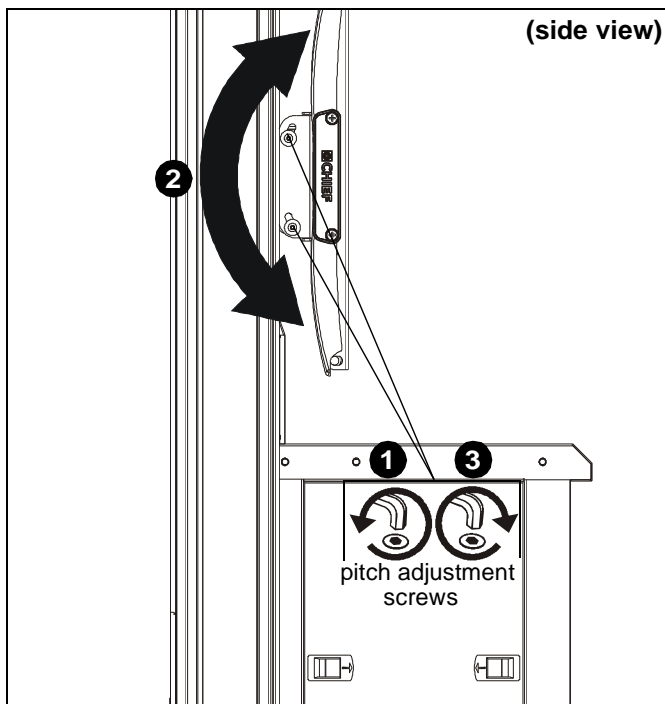

Figure 19
1. Loosen pitch adjustment screws to allow pitch to be adjusted. (See Figure 19)
2. Adjust pitch as desired. (See Figure 19)
3. Tighten pitch adjustment screws to lock pitch position. (See Figure 19)